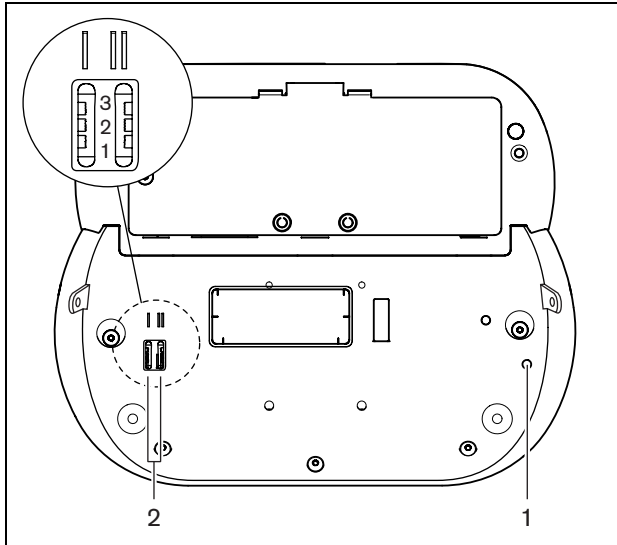

figure 3.6: Bottom view of wireless discussion unit
- 1 Remove the wireless discussion unit from the case, and make sure that both configuration switches at the back of the unit are set to 1 (single delegate mode). See figure 3.6, no. 2.
- Push and hold the de-init button of the wireless discussion unit (see figure 3.6, no. 1), and then